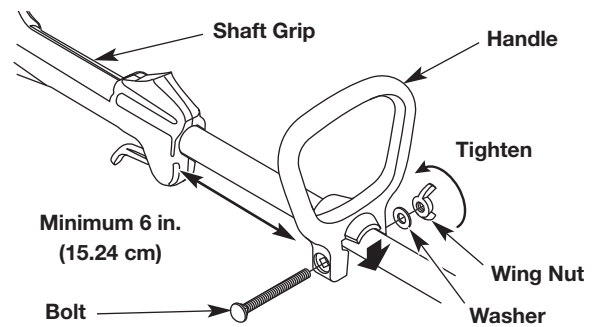

Fig. 3
1. Push the handle down onto the shaft housing (Fig. 3). The square bolt hole in the handle should be to the right.
2. Insert the bolt into the square bolt hole and push it through (Fig. 3). Place the washer onto the bolt. Screw the wing nut onto the bolt, but do not tighten the wing nut completely.
3. While holding the unit in the operating position (Fig. 10), move the handle to the location that provides the best grip. Place it a minimum of 6 inches (15.24 cm) from the end of the shaft grip (Fig. 3).
1. Loosen the wing nut (Fig. 3).
2. While holding the unit in the operating position (Fig. 10), move the handle to the location that provides the best grip. Place it a minimum of 6 inches (15.24 cm) from the end of the shaft grip (Fig. 3).